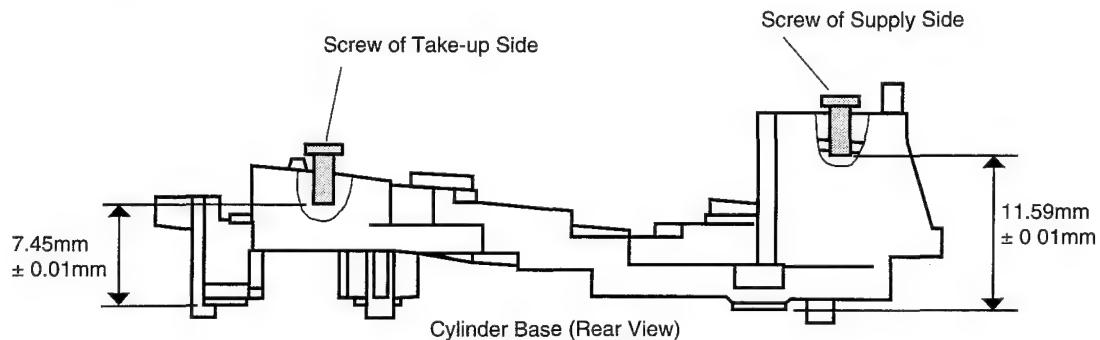

Fig. 3-2
3.3 Cylinder Base (Guide Roller Catchers) Height Adjustment (Fig. 3-2)
- (1) Turn the two screws on the cylinder base (guide roller catchers) so that the specified values can be obtained as shown. (See Fig. 3-2)
- (5) Adjust the height of OHD arm so that the widest portion where color of tape looks different is less than 0.5 mm.
- (6) Make sure that no curling of tape occurs at either the top or the bottom flange of OHD arm. (However, even if some curling occurs at either flange, it can be judged in the allowable range if there is no scratch on the tape and there is no gap between the other flange and tape edge.)
- (7) Load the blank tape that has been rewound again. Set to the forward and reverse search modes, and make sure that step (6) is satisfied.
- (8) Connect an oscilloscope to TP3.
- (9) Synchronize the oscilloscope with TP1.
- (10) Set the oscilloscope to (+) slope.
- (11) Play back the alignment tape. Set to forward search and reverse search modes, and make sure that the FM waveform does not collapse. Also, make sure that noise bars do not fluctuate up and down on the monitor screen.
- (12) If step (11) cannot be done, turn the screw on the take-up side of the cylinder base (see Fig. 3-2) counterclockwise by approx. 45°, and then perform this adjustment from the start, after doing "3.5 Guide Roller Height Adjustment (Adjustment After Replacing the Cylinder)".